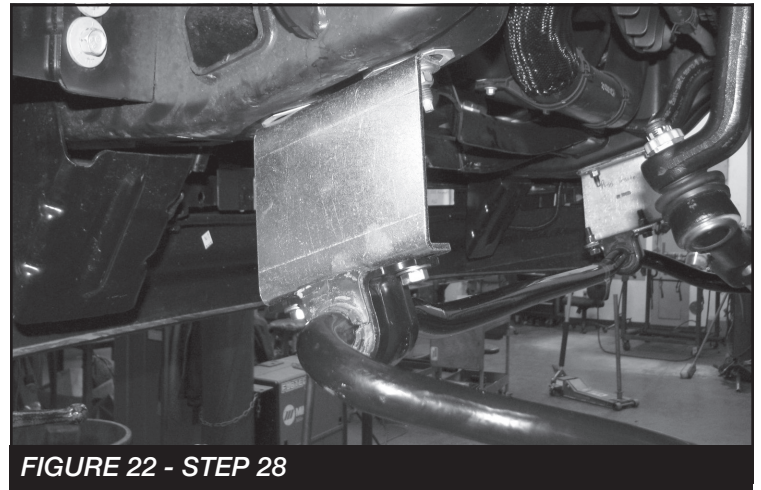

FIGURE 22 - STEP 28
28. Install FT30630 (Driver) & FT30629 (Passenger) Sway bar drop brackets using the factory hardware. Reinstall the front sway bar to the end links using the supplied 7/16" hardware torque all hardware to 83 ft-lbs. Reconnect the sway bar to the endlinks. Torque to 52 ft-lbs **SEE FIGURE 22**
31. Locate and install the rear lift blocks FTBK64D & P. The factory block will need to be removed. The short end of the blocks should face to the front of the vehicle. Using the supplied u-bolts, nuts and washers align axle, lift blocks and springs and torque to U-Bolts to 170 ft-lbs. **SEE FIGURE 22**